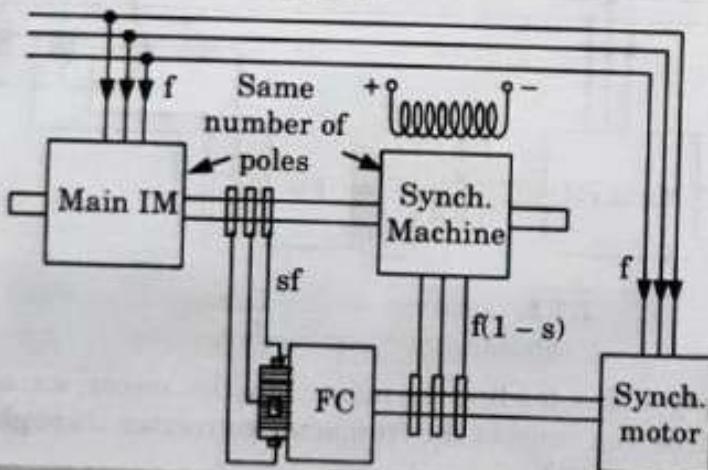

Fig. 1.2.1. Constant-power drive scheme with commutator-frequency converter.
1. The scheme of connections for constant power drive is shown in Fig. 1.2.1. The main induction motor drives a synchronous machine having the same number of poles.